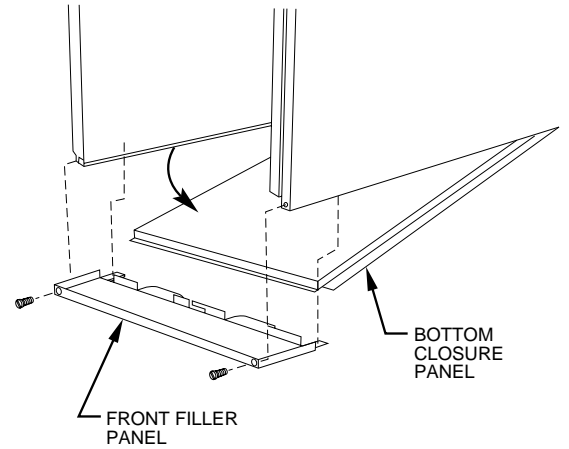

Fig. 29—Removing Bottom Closure Panel
1. Tilt or raise furnace and remove 2 screws holding front filler panel. (See Fig. 29.)